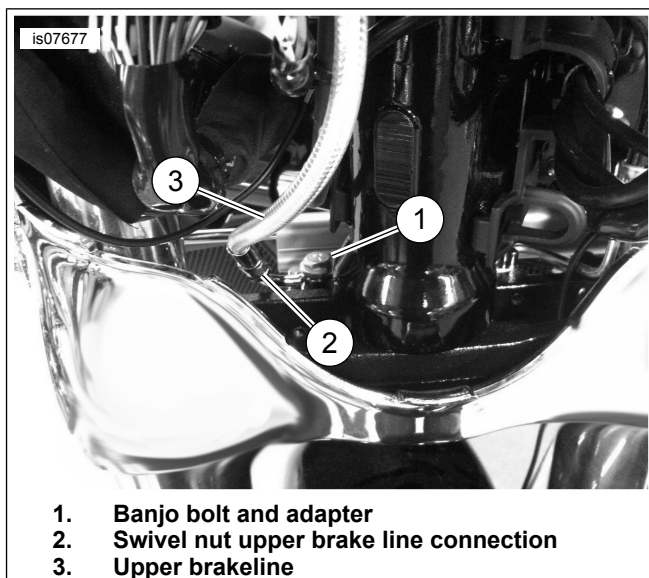

Figure 2. Upper Brake Line Routing
3. See Figure 2. Install the M12 banjo bolt (removed earlier) into the brake line adapter and sealing washers. Note the orientation of the adapter.